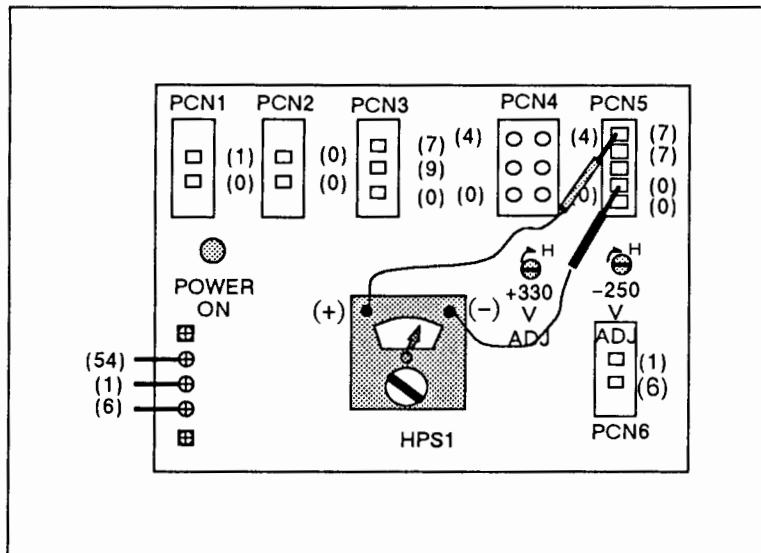

Figure 6-9. -250 V Power Supply Adjustment
- k. Turn the plotter line switch to OFF (O) and remove the voltmeter probes.
- p. Insert the voltmeter probes (+ to Pin 1 and - to Pin 4) into the female side of the plug. See Figure 6-9.
- q. Turn the plotter line switch to ON (I).